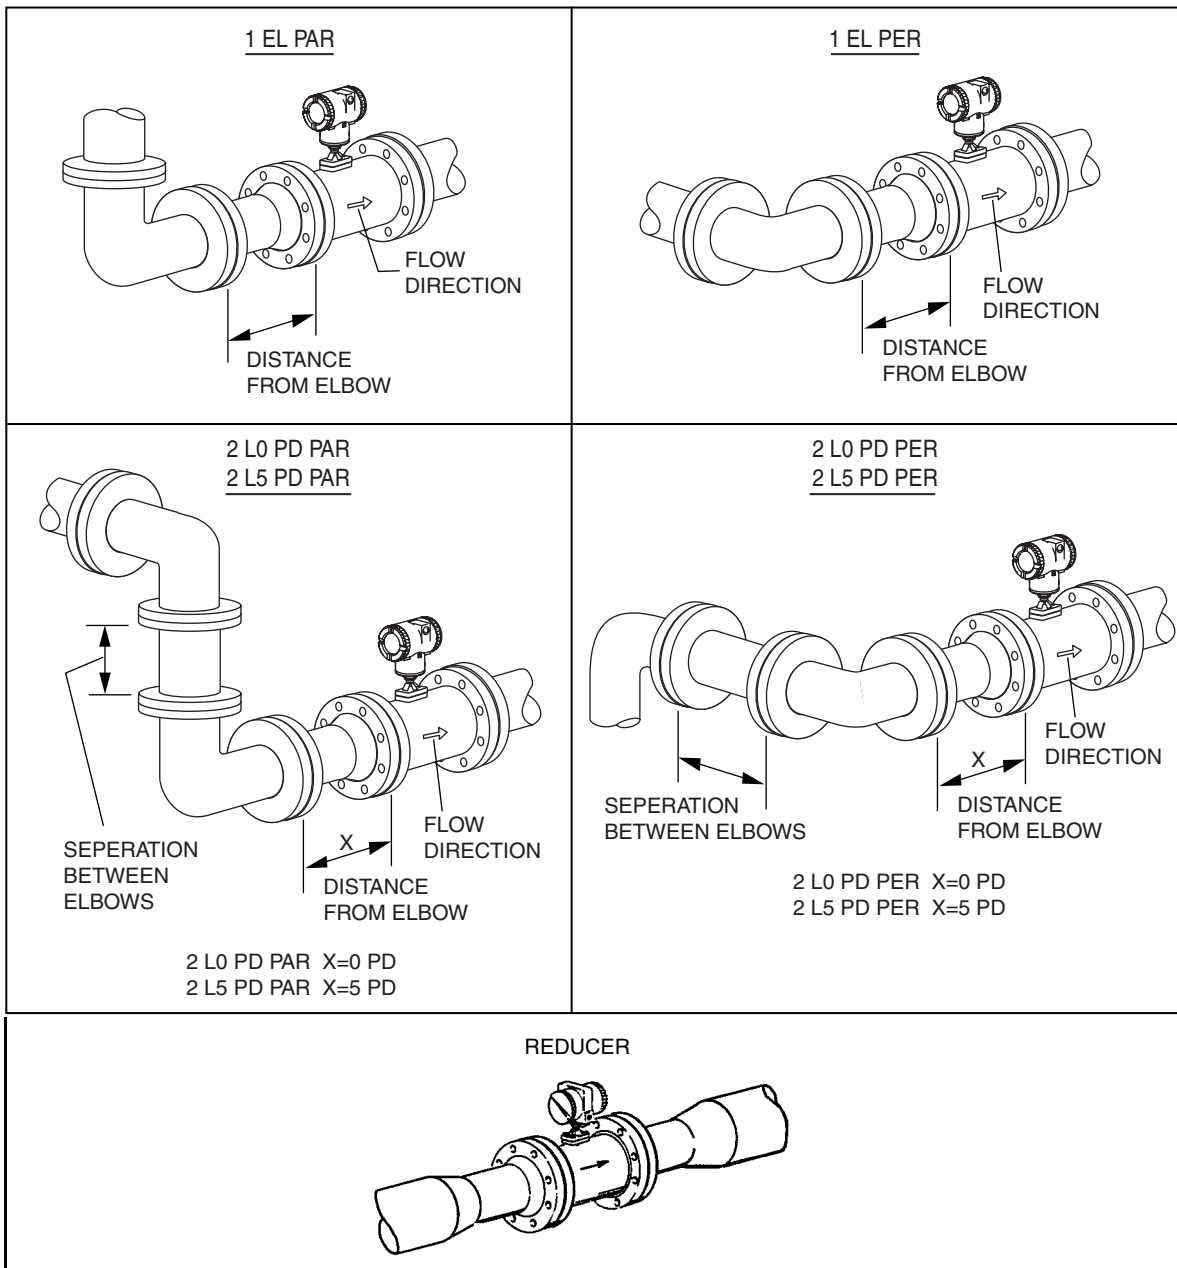

Figure 27. Piping Configurations
- ◆ In **4 Config**, select the upstream piping configuration from the following picklist (see Figure 27):